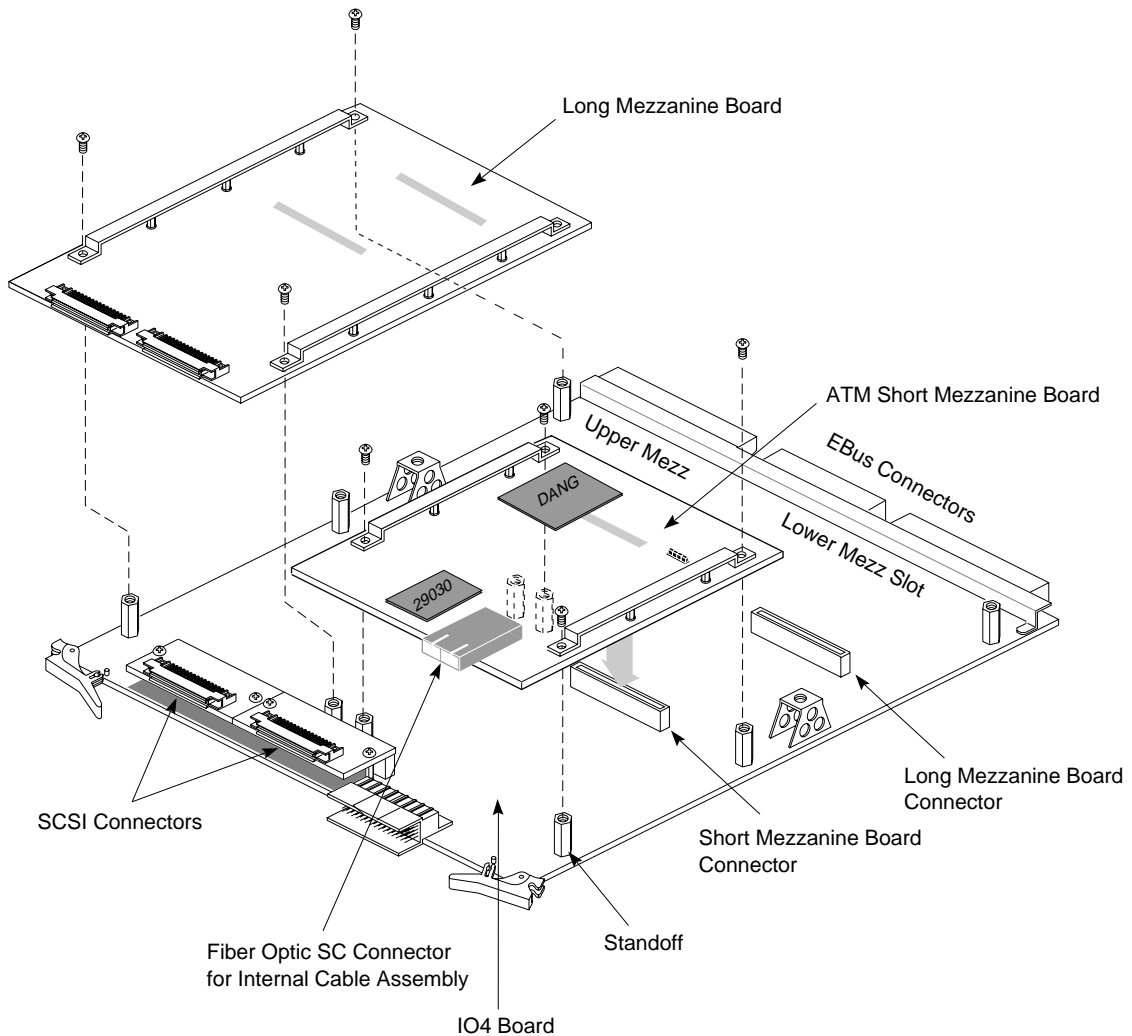

Figure 2-3 IO4 Board with an ATM Mezzanine Board
2. Lay the board on a flat antistatic surface so that the component side faces up and the SCSI connectors face toward you, as illustrated in Figure 2-3.
3. Locate the selected mezzanine slot (upper or lower) and remove the four screws from the standoffs, as illustrated in Figure 2-3. If the screws are missing, this is not a problem.
4. Position the IRIS ATM board onto the selected slot so that the connector on the bottom of the board matches the receptacle on the IO4 board and the standoffs match the ATM board's holes. Figure 2-3 illustrates the correct positioning for the upper and lower slots.